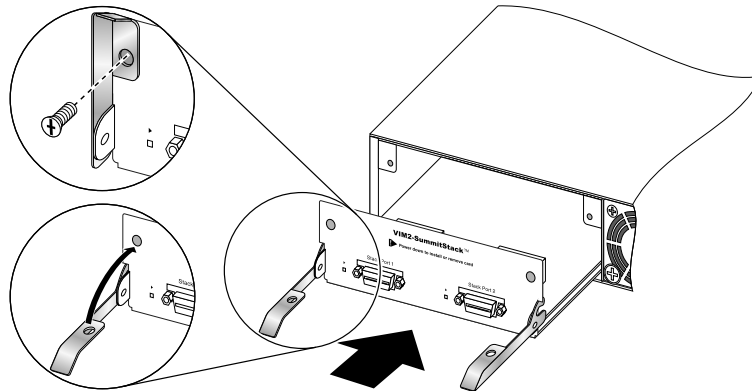

Figure 337: Installing a Versatile Interface Module
- 5 Install the VIM in the switch (see Figure 337: Installing a Versatile Interface Module on page 359):